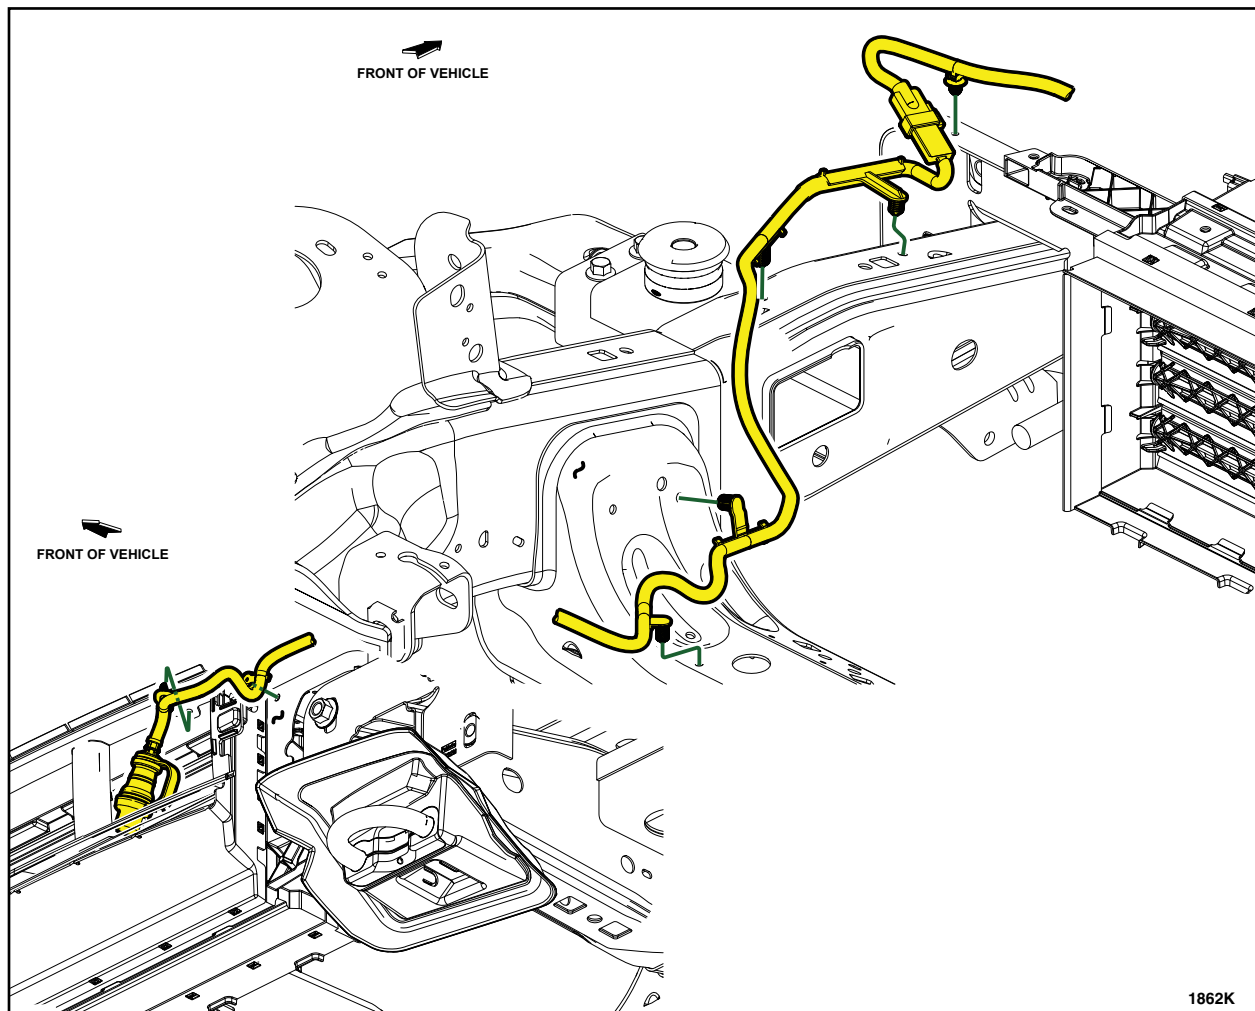

FIGURE 5b
7. Connect the wire assembly in-line connector. See Figure 5b.